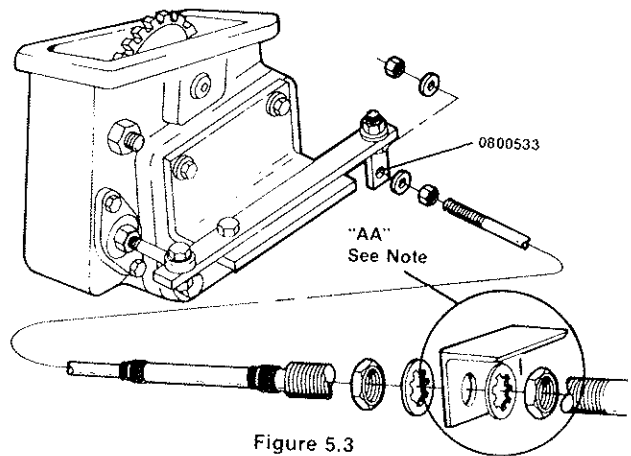

Figure 5.3
10. Be sure that P.T.O. is disengaged, then connect P.T.O. control cable to eye-bolt weldment (0800533) on "Mechanical Advantage" pivot arm, in such a way, so that when P.T.O. control cable knob is pulled, pivot arm will engage P.T.O. gears (fig.5.3). Use two 5/16 helical lockwashers and one 5/16-24 hex nut supplied in "P.T.O. Control Cable Kit" #0900454.